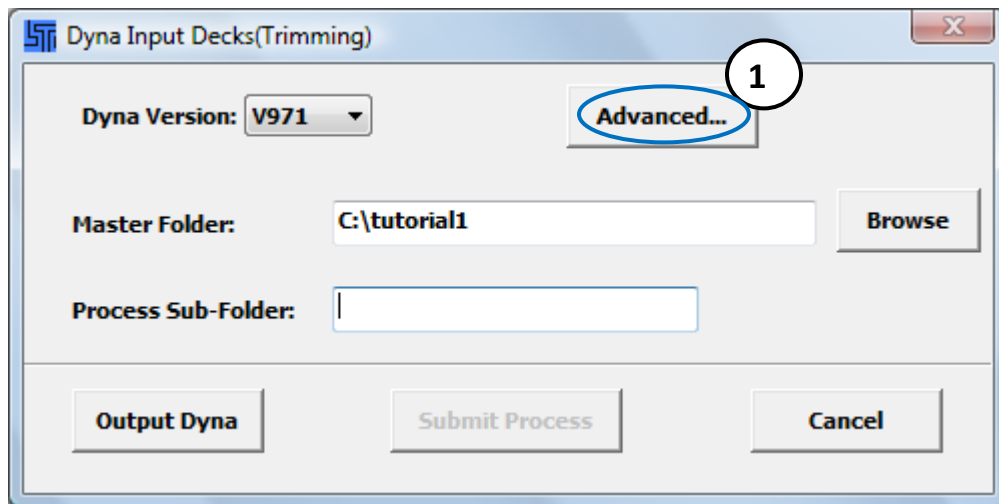

Figure 8
click  (launches *Dyna Input Decks Trimming* Dialog in Figure 8)
5. Define Output Options (Figures 8 and 9)
click **Advanced...** (Figure 8)